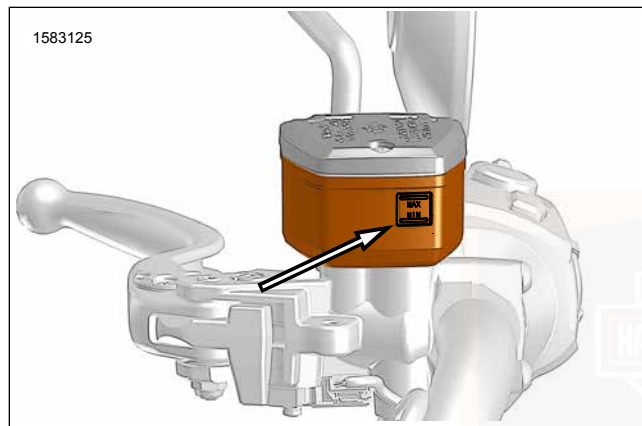

Figure 60. Front Master Cylinder Reservoir MIN Level
2. **Front:** See Figure 60. Check level on side of front brake reservoir. Level must be above minimum mark on side of reservoir.